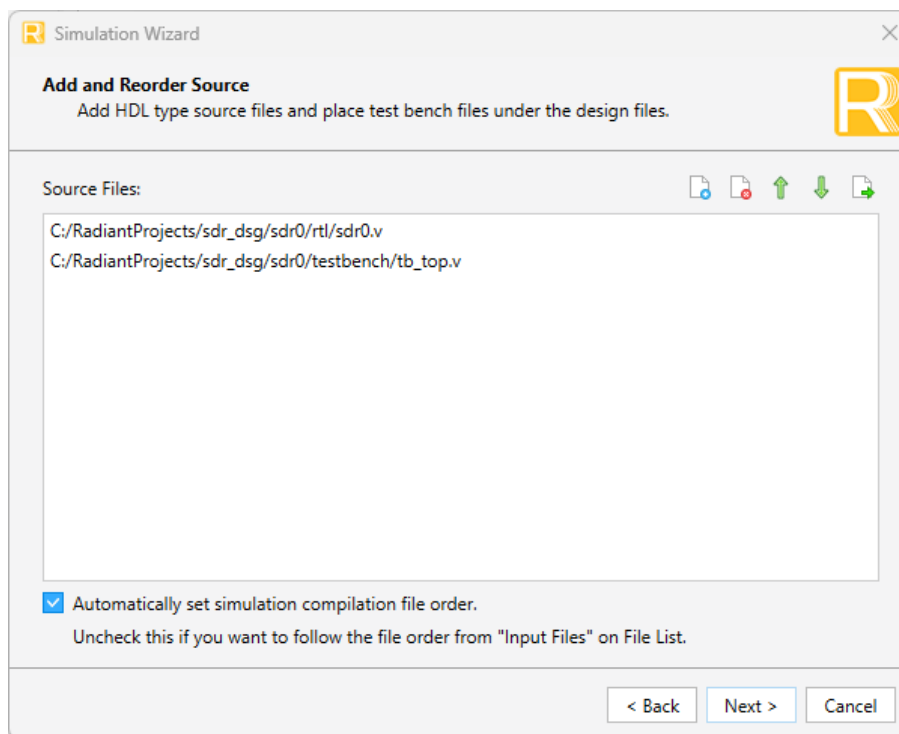

Figure 5.5. Adding and Reordering Source
- Click **Next** to open the **Add and Reorder Source** window shown in Figure 5.5.